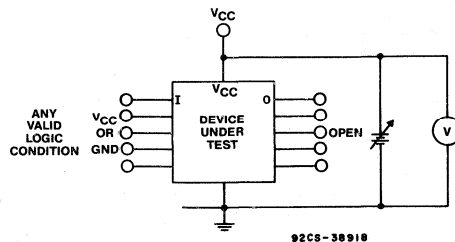

Figure 18: Test set-up for V_{CC} over-voltage latch trigger
2. V_{CC} Triggered Latch-Up Test by Over-Voltage on V_{CC} (Fig. 18)